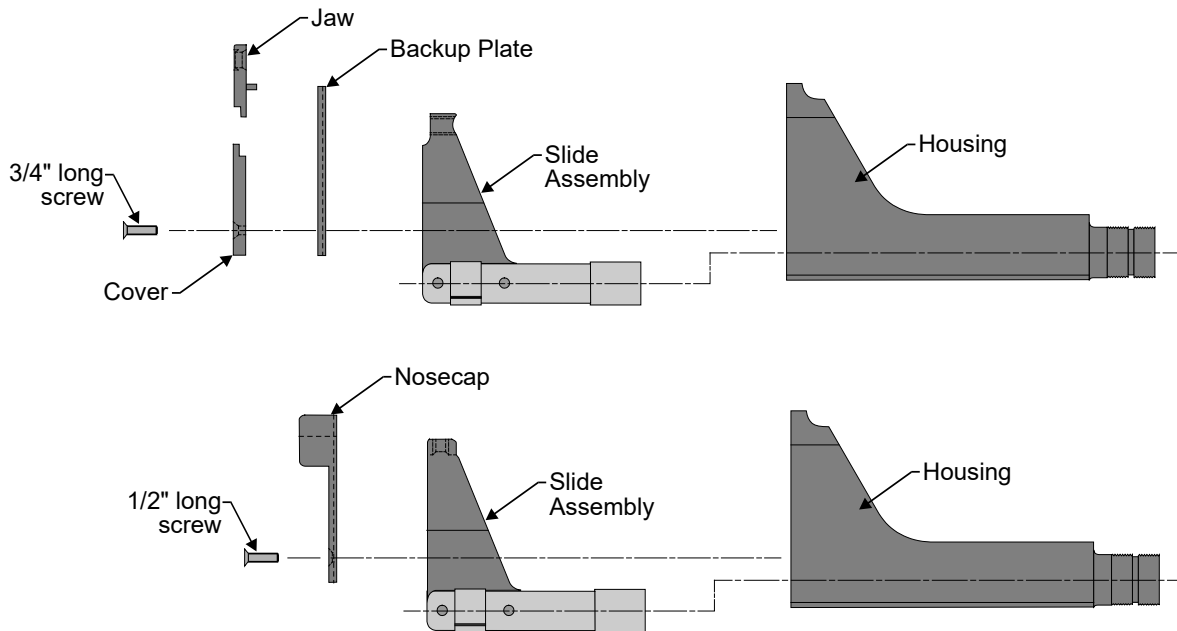

Figure A-1
11. Refer to Table A-1 and Figure A-1 as needed.